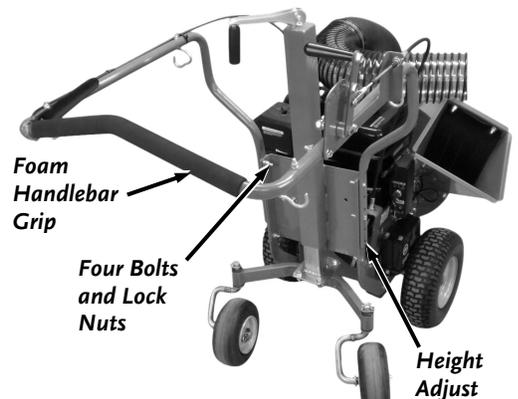

Figure 6
5. Adjust the Handlebars to the preferred working height and secure the Handlebars to the Height Adjust using the four Bolts and Lock Nuts (**Figure 6**).